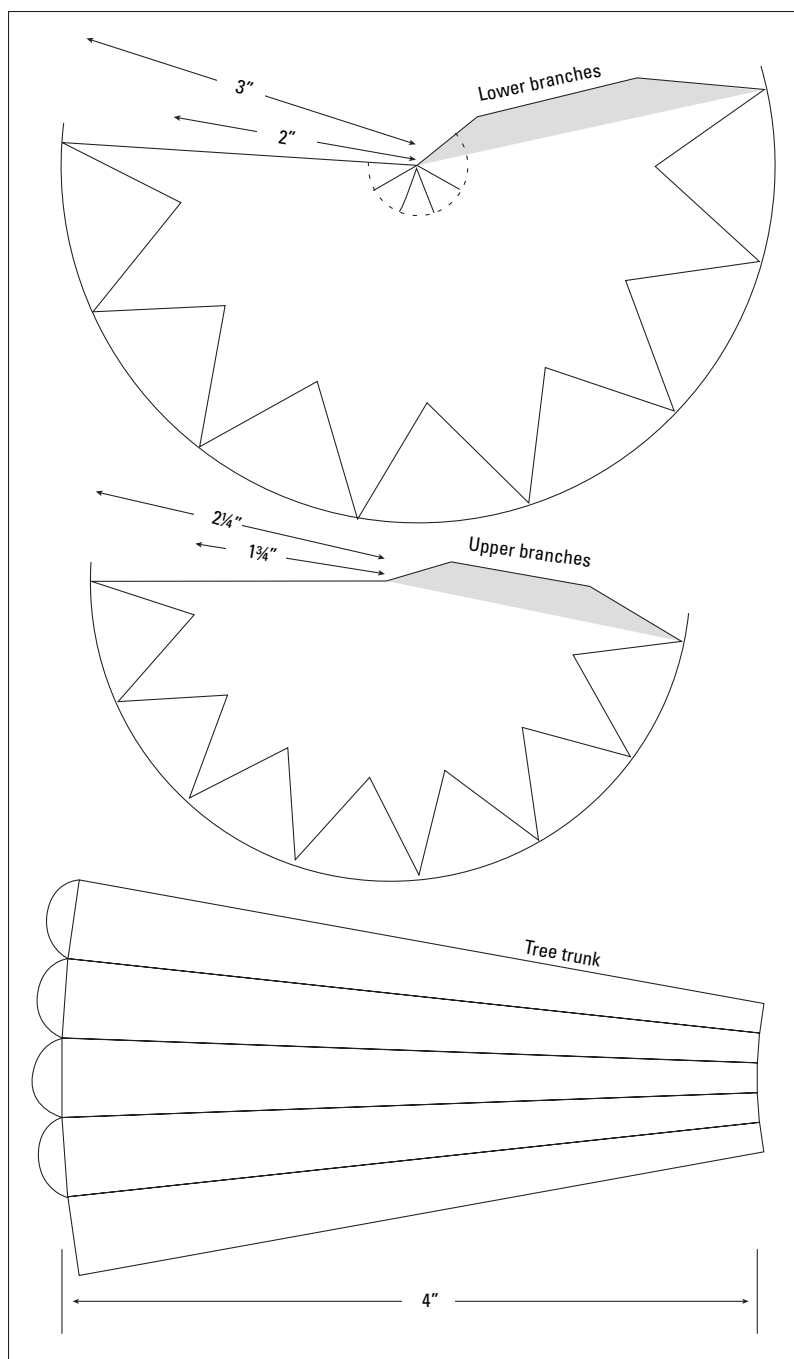

Figure 11-13:
1. Copy the template from Figure 11-13 onto a piece of card.**2. Score and cut out the pieces of the trunk using these steps:**